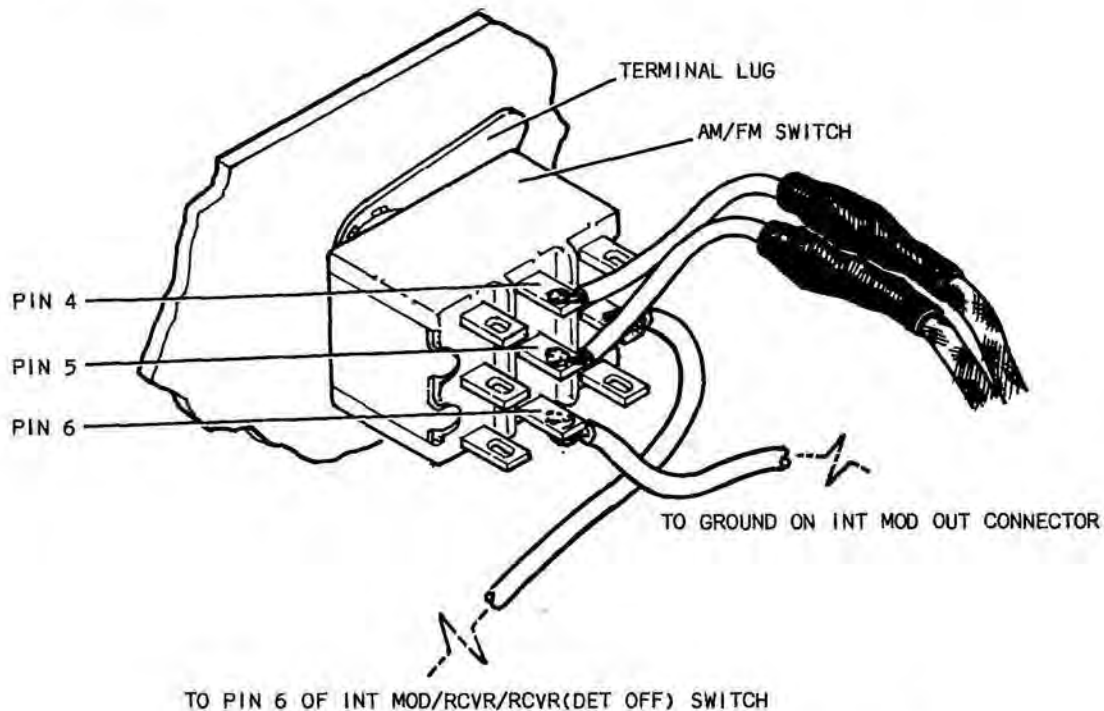

Figure 6-14 AM/FM Switch Installation
- J. AM/FM Switch (15) by attaching:
1. Terminal lug (14) and switch (15) at rear of panel (72); flat washer (58) and hex nut (59) at front of panel (72).
2. Ensure that switch is installed as shown in Figure 6-14 before soldering wires.